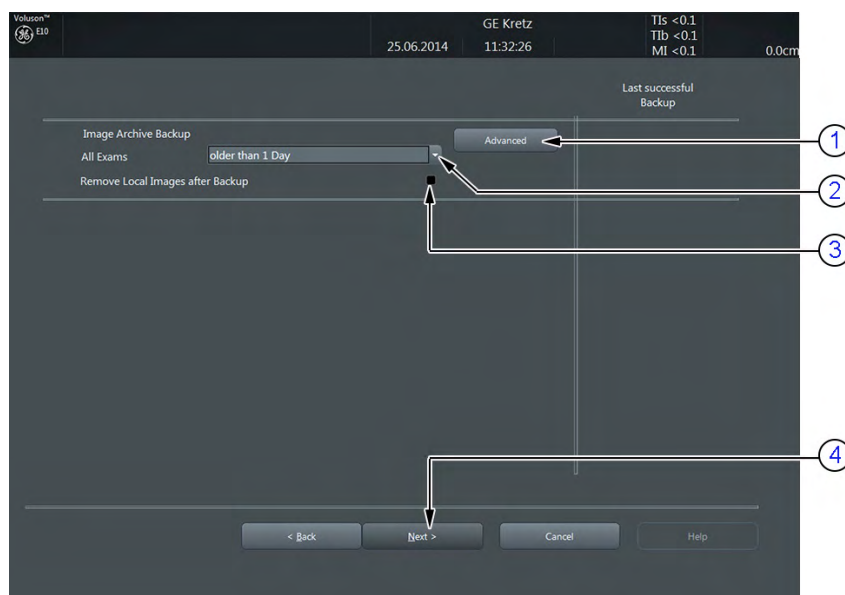

Figure 4-21 Image Archive Save - preparations
5. Choose archiving span time from the pull-down menu (2).
**Note** *If for example “All images older than” **1 Day** is chosen (see: Figure 4-21 on page 4-21 ), images of the current day will not be archived! However, if you click the [Advanced] button you can put this right.*
6. If desired, check mark “Remove Local Images after Backup” (3).
7. Click the **Advanced** button (1) if it is desired to adapt archive data.
8. Select the **Next** button (4).